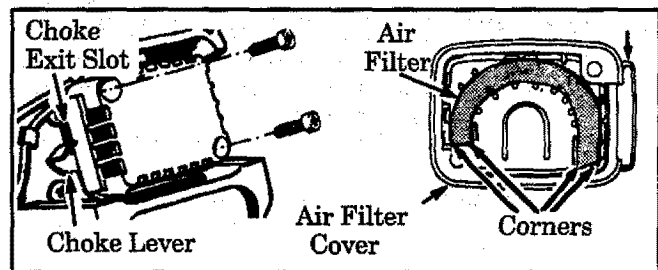

Figure 22
1. Loosen the two screws on the air filter cover enough to remove the cover from the engine. Figure 22.
2. Remove air filter from the cover. Figure 22.
5. Reinstall the air filter cover, making sure the choke exit slot (Figure 22) is placed over the choke lever.